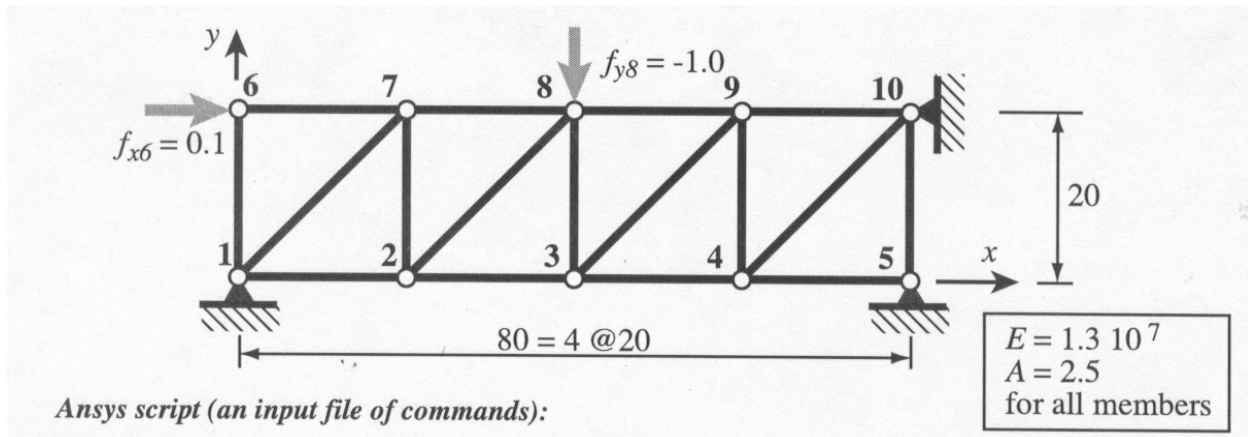

Figure 1: Problem Definition & Geometry
This tutorial aims to familiarize students with basic ANSYS functions by modeling a 2-D pinned truss described by figure 1. While similar to the 16-bay space truss, key differences in the modeling procedure exist. Thus, this tutorial also highlights areas where the student should consider the possible changes required to accurately model the space truss.
- Click **Apply**. This creates a node at the origin, corresponding to joint 1 in Figure 1.
- Repeat the procedure to create nodes 5, 6, & 10 to represent joints 5, 6, & 10 (use Figure 1)
- Select **ALL DOF, Constant Value**, and enter 0. This applies a fixed boundary condition to joints 1, 5, and 10 as specified by Figure 1.
- Repeat the process for node 8, use Figure 1 for correct load configuration